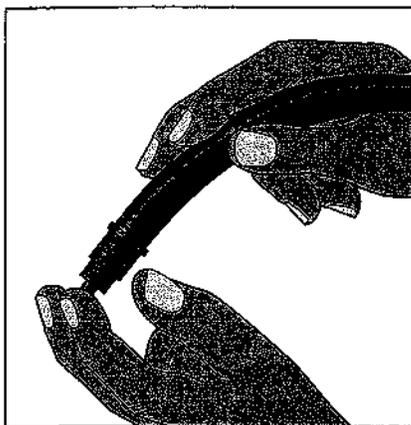

Figure 13-8:
- ^ **Method 2:** Remove the PCV valve from the valve cover, with the hose still attached, and place your finger over the open end of it (see Figure 13-8). If it's working well, you will feel strong suction.